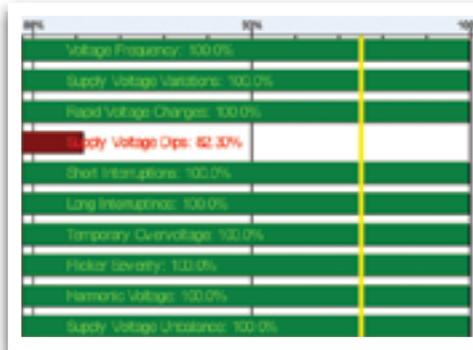

Figure 3: EN 50160 at MCC
Figure 3 shows the EN 50160 results at the MCC (4), where many faults were observed. However, similar faults occur in points 2 and 3 as well, which perfectly comply with EN 50160. The obvious conclusion is that compliance to EN50160
time. Figure 3 shows the phase L2 to neutral voltage at all 4 locations from 1 at the top to 4 at the bottom. Only the voltage dip at 4 was more than the commonly used 10% threshold. When using a trigger-based logger, the troubleshooting engineer would have only a few cycles before and a few cycles after the event, from location 4 only. The data from the other three locations wouldn't be logged. In this way, it would be difficult to understand the event propagation over the network.